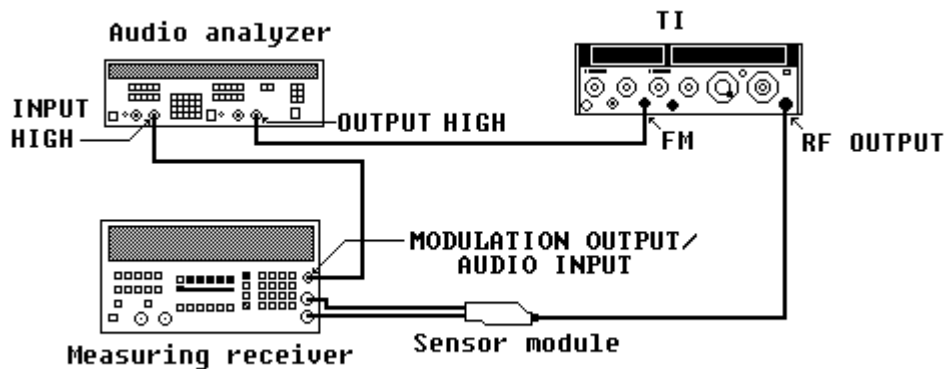

Figure 8. FM - test setup.
- (1) Position controls as listed in (a) through (e) below:
- (2) Connect equipment as shown in figure 8.
- (3) Set measuring receiver to measure FM. Set the high-pass filter to 50 Hz and low-pass filter to 15 kHz and use peak + detector.
- (4) Set audio analyzer for a 1-kHz 1.414-V ac output level.
- (5) Adjust **FREQUENCY TUNE** control for a **FREQUENCY MHz** display indication of 64 MHz.
- (6) Set **PEAK DEVIATION** switch to positions listed in table 29. The measuring receiver will indicate as specified; if not, perform **b** below.
(6) Connect equipment as shown in figure 8.
(7) Position controls as listed in (a) through (j) below.